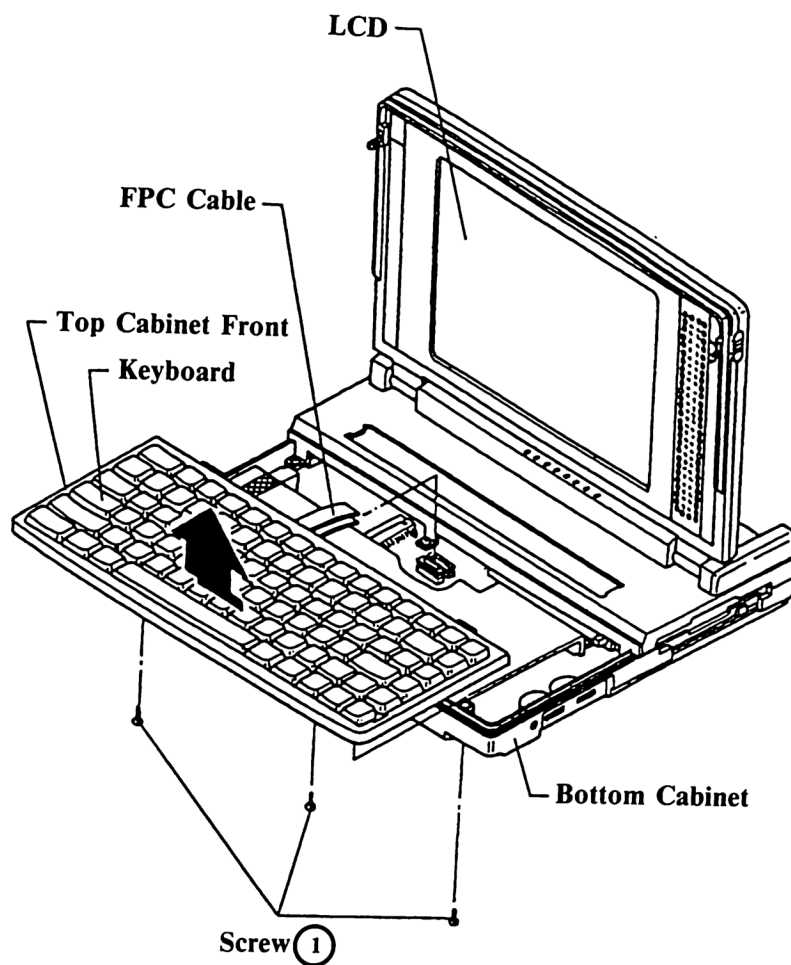

Figure 3.1
Remove the three screws ① from Bottom Cabinet (the cabinet bottom). (Figure 3.1)